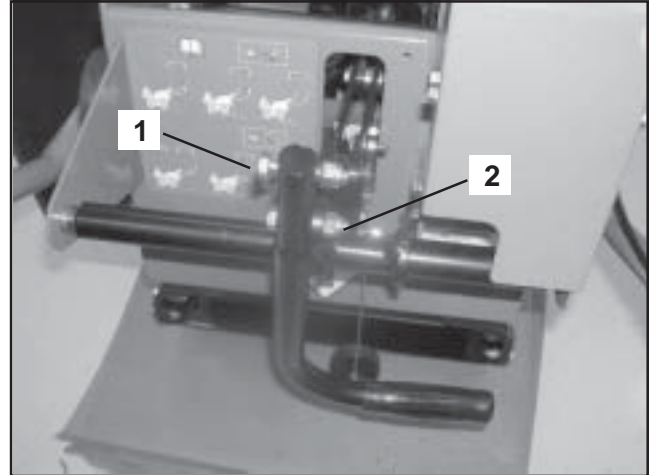

FIGURE 4
- Using a 9/16" wrench and socket wrench, remove top bolt and lock nut on the depth of cut handle. Loosen lower bolt. Rotate handle up and replace bolt in lower hole and tighten hardware. See Figure 4.